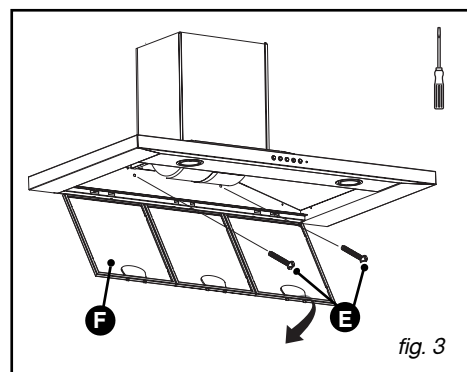

fig. 3
– Screw in the bottom two screws (E/fig. 3).
– If a 125 mm flue is being installed, use the adapter provided (fig. 3).